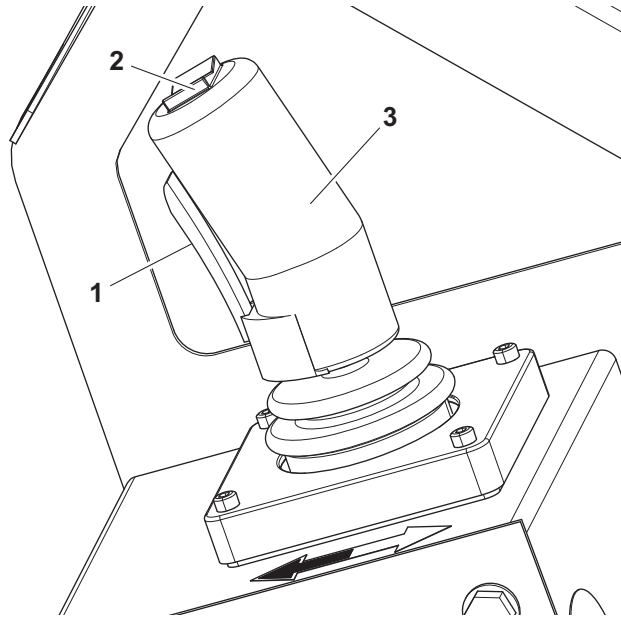

Figure 3-7. Platform Control Components
(Item 2 - Figure 3-7.)
(Item 1 and 3 - Figure 3-7.)
4. Squeeze and hold the trigger switch, and move the joystick back (platform up - white arrow direction) or move the joystick forward (platform down - black arrow direction) and hold until desired elevation is reached. Releasing the trigger switch or moving the joystick back to its center position will stop the function being operated. (*Item 1 and 3 - Figure 3-7.*)